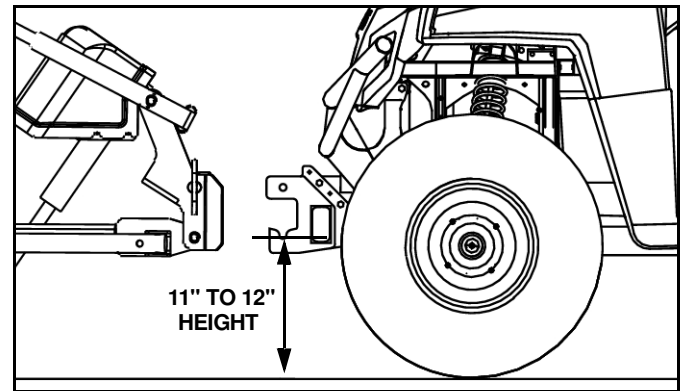

Figure 6
- Adjust the UTV Mount (#1) so that the center of the bottom slot is 11-12" off the ground. (See Figure 6.)